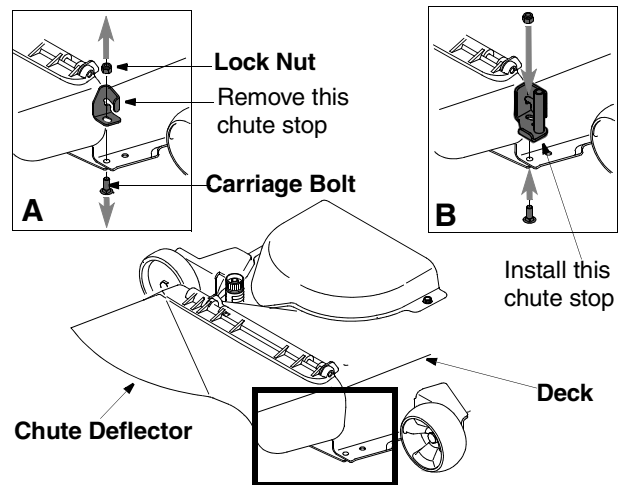

Figure 6
- Remove the carriage bolt and lock nut holding the chute stop to the deck. See Inset A of Figure 6. Save the hardware.
- Replace with new chute stop bracket, from the bagger kit, at the same position on the deck. See Inset B of Figure 6. Secure with the hardware removed earlier.